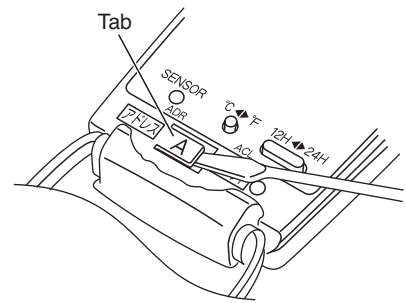
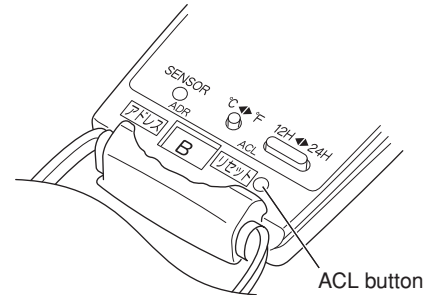

Fig. 62
Fig. 63
- (1) Switch on the power source.
- (2) Break the address-setting tab marked "A" on the second remote controller to change the address (Fig. 62). When the tab is removed, the address is automatically set to B (Fig. 63).
- (3) **(SAP-KMRV74EH, KMRV94EH, KMRV124EH, KRV184EH, KRV244EH)**